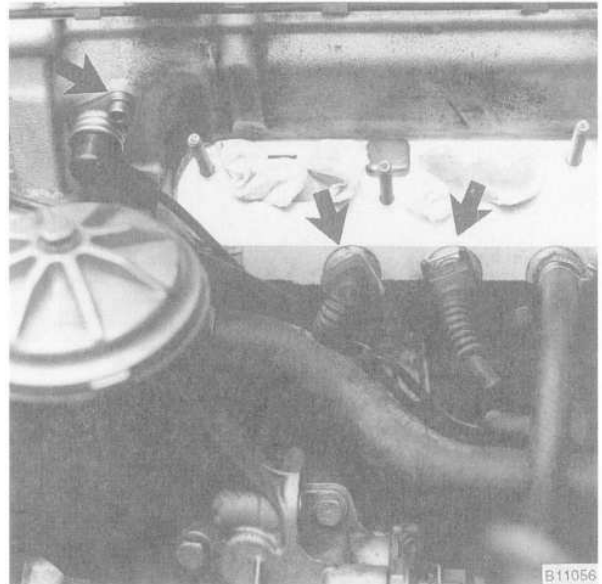

Fig. 16. Harness connectors to be disconnected (arrows).
19. Disconnect the cylinder identification sensor, coolant temperature sensor, and the temperature gauge sender connectors shown in Fig. 16.